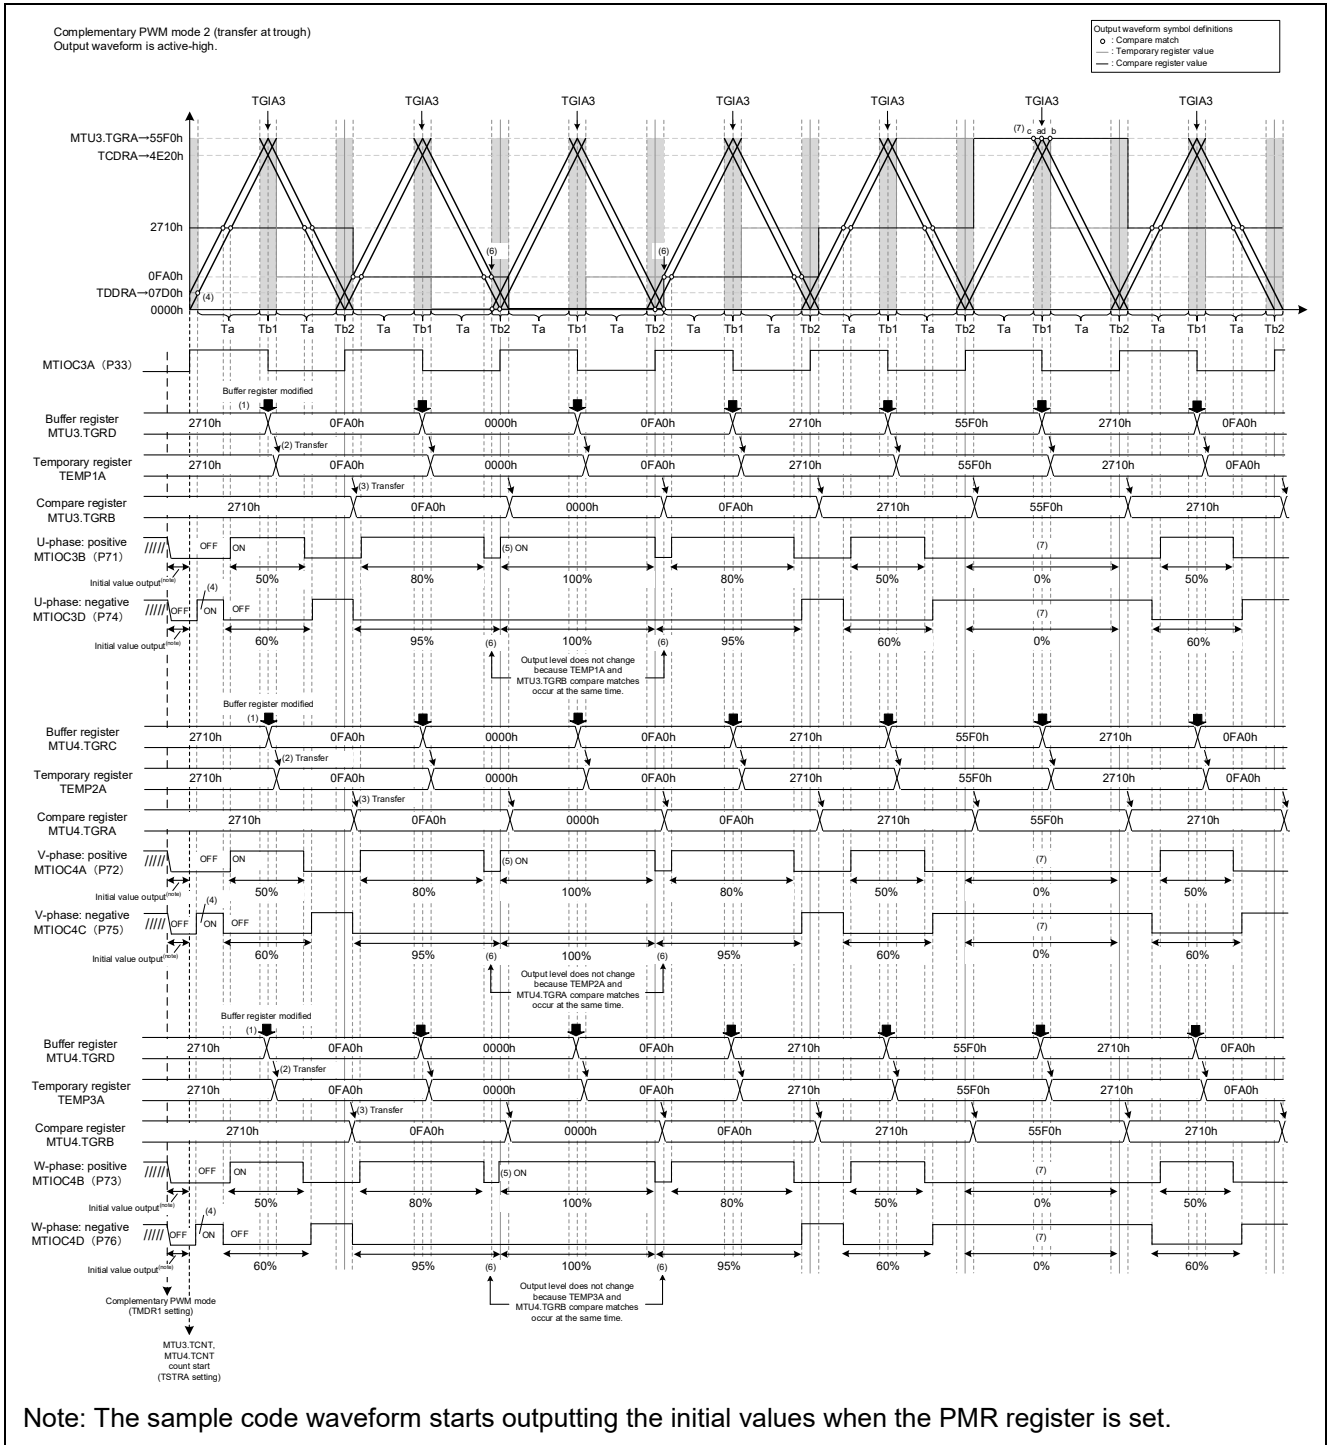

Figure 3.100 Sample Code Operations
- Refer to Figure 3.100 for buffer register initial values
- Refer to Figure 3.100 for details on timing for duty cycle changes
The sample code operations are shown in Figure 3.100. The settings of the duty cycle are changed with each period by modifying the values of the buffer registers (MTU3.TGRD, MTU4.TGRC, and MTU4.TGRD) at the compare match interrupt (TGIA3) of the MTU3.TGRA register, which is set to the upper limit value of MTU3.TCNT ((1) in Figure 3.100).
Writing MTU4.TGRD at the end of the buffer register modification enables data transfer from the buffer register to the temporary register. When MTU4.TGRD is written in the Ta interval, the data written to the buffer register is immediately transferred to the temporary register, but in this sample code, MTU4.TGRD is written in the Tb1 interval, so the data is transferred to the temporary register after the Tb1 interval, ends ((2) in Figure 3.100).
Since this sample code uses complementary PWM mode 2 for trough transfers, the compare register updates the data by transferring from the temporary register at the end of the Tb2 interval ((3) in Figure 3.100).
Initial output is OFF for both positive-phase output and negative-phase output according to the settings of TOCR2A bits OLS1P, OLS1N, OLS2P, OLS2N, OLS3P, and OLS3N. After setting the complementary PWM mode in MTU3.TMDR1, output continues until MTU4.TCNT is greater than the value of the TDDRA register ((4) in Figure 3.100).
The compare and temporary registers are enabled in the Tb2 interval and the positive-phase turns ON when a compare match occurs between the temporary and counter registers ((5) in Figure 3.100).
Because the negative-phase does not turn OFF when both compare matches occur, low output is retained from the previous cycle ((6) in Figure 3.100).
When outputting 0% duty cycle, set the buffer register to the same value as MTU3.TGRA at the buffer modify timing one cycle before in order to make the compare register the same value as MTU3.TGRA. The following compare matches (a, b, c and d) occur, but the waveform does not change. The positive-phase wave retains low output and the negative-phase wave retains high output ((7) in Figure 3.100).